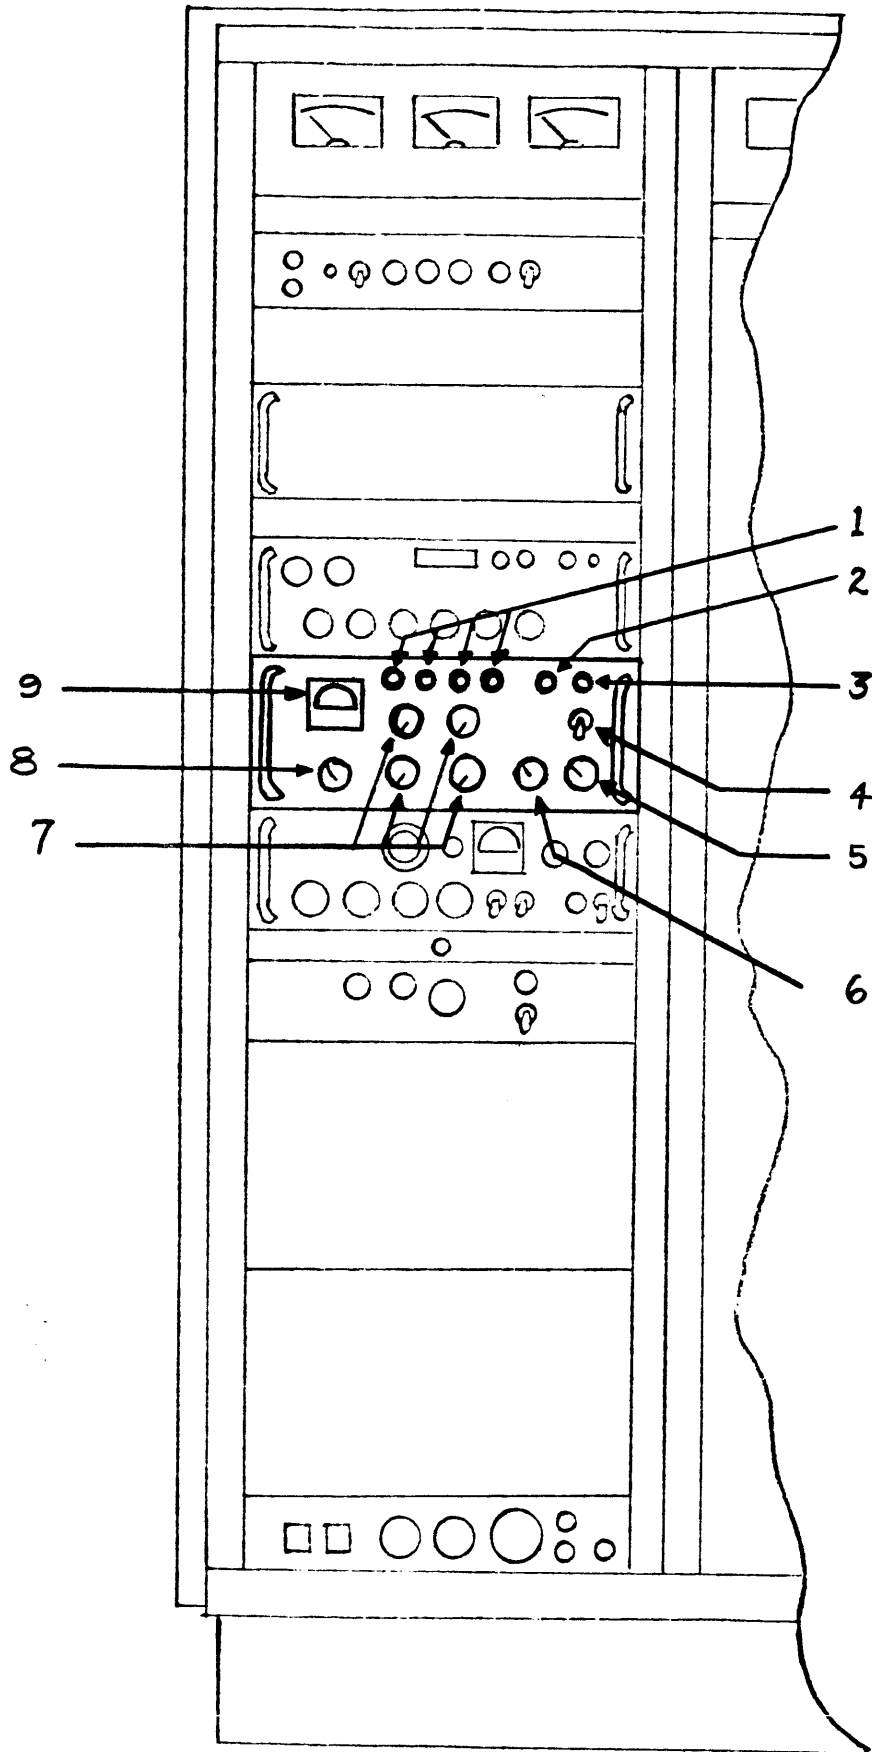

Figure 3-3. Controls and Indicators, CMR.
c. CHG. - Refer to figure 3-3. Controls and indicators for the CHG are as follows:
b. CMR. - Refer to figure 3-3. Controls and indicators for the CMR are as follows: